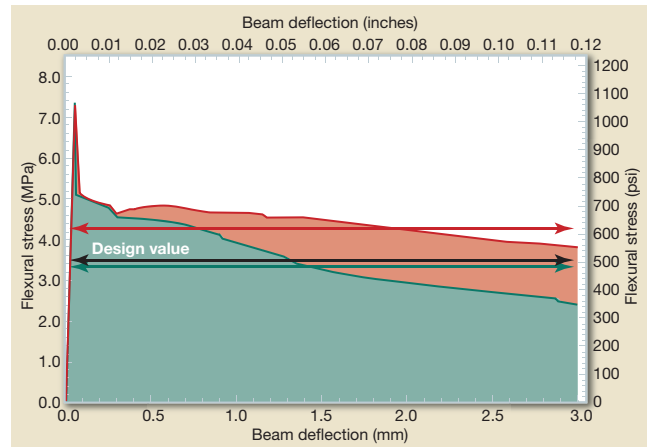

Fig 4 - Fe3.0 acceptance criteria
Figure 4 shows acceptance criteria using an average value calculated with the area under the load deflection curve. This criteria is specified using JSCE SF-4. An average value is used as the design value. Flexural toughness ( $T_b$ ) is determined as the area under load deflection curve up to deflection of span/150, which is 3mm ( $\delta_{tb}$ ) for a 150mm (b) x 150mm (t) x 450mm (L), or 6”x 6”x18”, square beam.